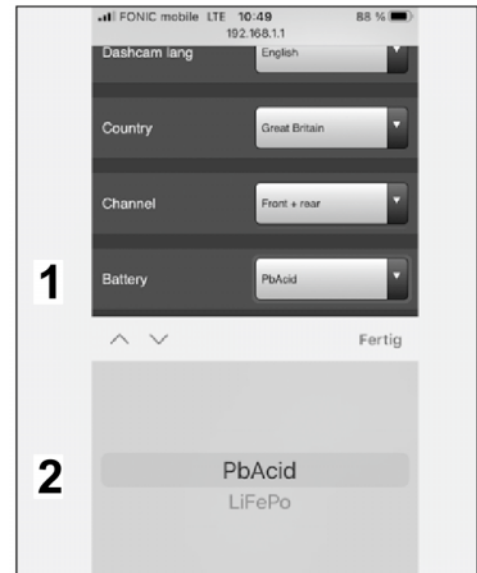

Figure 31
5.3.4 Select the battery type (⇒ Figure 31)